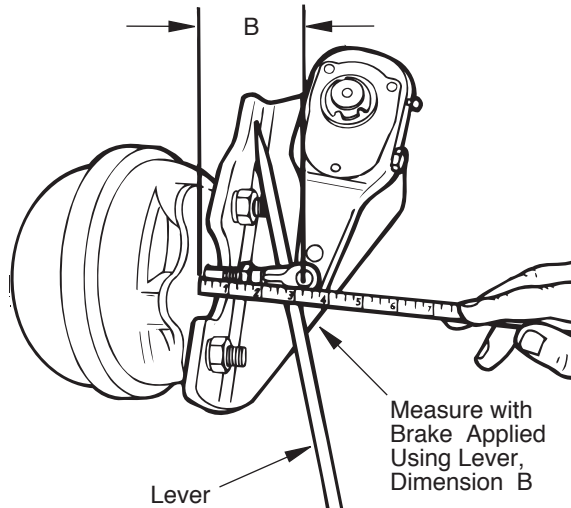

Figure 16
3. Apply and hold an 80 psi brake application, and again measure from face of air chamber to clevis pin centerline. Refer to Figure 16. Record distance as dimension “B”.